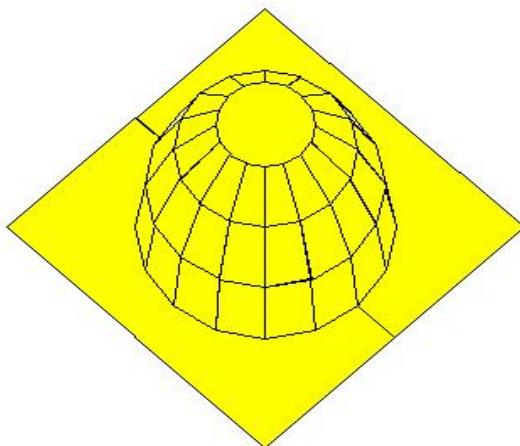
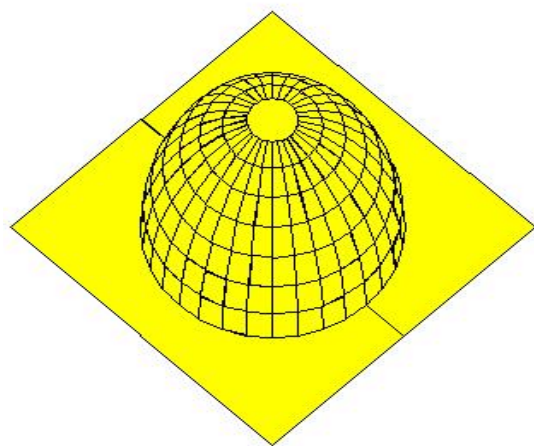

Figure 1
Figure 2
The Egyptian researchers expressed the need to model domes and vaults, which are prevalent in Egyptian architecture. In response, I wrote an awk script that generates DOE-2 BDL input lines for a dome composed of A rows, each containing A\*4 quadrilateral polygons, with one flat polygon with A\*4 sides on the top, and two flat roofs surrounding the base, which I call the *skirt*. A, the dome radius and the location of the dome center are specified in a small input file read by the awk script, with one line for each polygon. The input file contains the following 5 numbers: dome radius, number of rows (A), the length of the square roof, and the X and Y coordinates for the dome center. For example, Figure 1 shows the result for a dome with a radius of 5 made up of 3 rows, flat roof with a length of 15, and located at the origin (X=0, Y=0). Figure 2 shows a more detailed model of the same dome, but now made up of 7 rows.